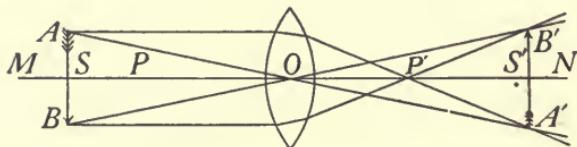

FIG. 383.—Construction of a real image by a convex lens
right angles to its greatest diameter and along this axis are certain definite positions as shown in Fig. 383. Let *MN* be the *principal axis* of a convex lens, *P* and *P'* are *principal foci* on either side of the lens, *S* and *S'* are *secondary foci*. These are at points on the principal axis that are twice as far from *O*, the center of the lens, as are the principal foci. In the formation of images by a convex lens, several distinct cases may be noticed:
(A) If a luminous body is at a *great distance* at the left, its light is brought to a *focus* at *P*, or its *image is formed at P*. (B) As the *object approaches* the lens the *image gradually recedes* until the object and image are at *S* and *S'*, *equally distant from O and of equal size* (as in Fig. 383). The object and image are now said to be at the *secondary foci* of the lens. (C) As the *object moves from S to P* the image recedes, rapidly increasing in size until (D) when